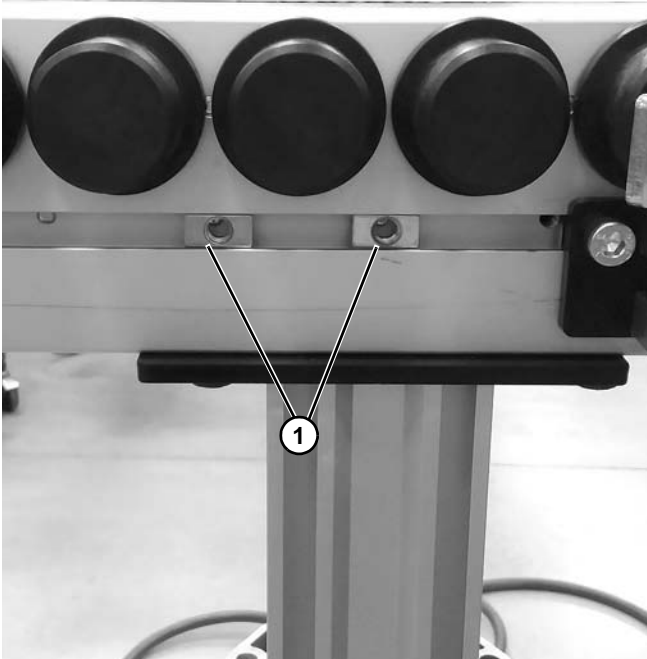

Figure 18
1. Install two spring nuts (**Figure 18, item 1**) in inner T-slot on both sides of the conveyor.